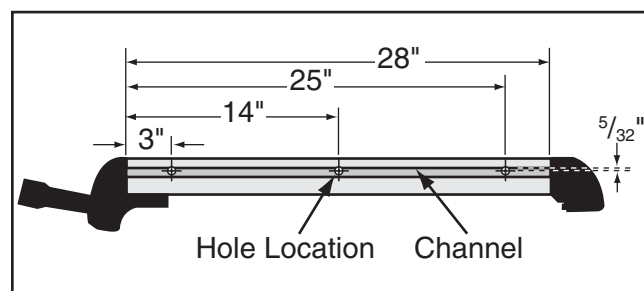

Figure 74. Location to mark holes in fence.
1. Remove the fence from the table, and mark three holes on both sides of the aluminum fence body, as indicated in **Figure 74**.